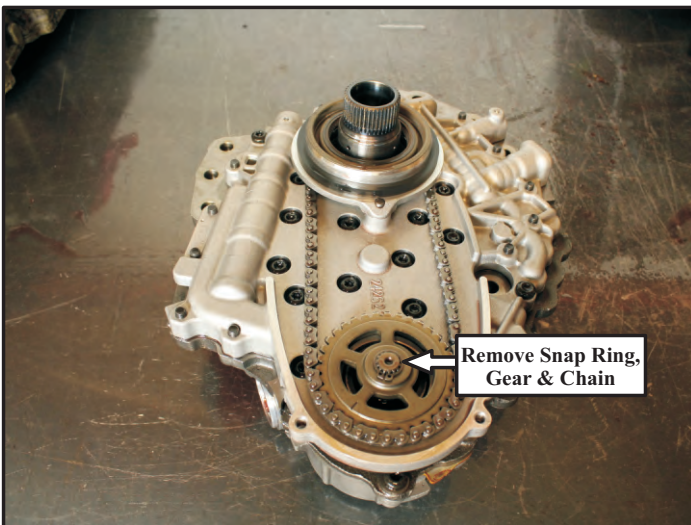

Figure 3
- (4) The pump assembly now consists of a variable vane type pump, fluid pump cover, a fluid pump plate, a fluid pump body which contains TCC and pressure regulation valves, a drive chain, and a drive and driven sprocket, see figures 3, 4, 5, 6 and 7.